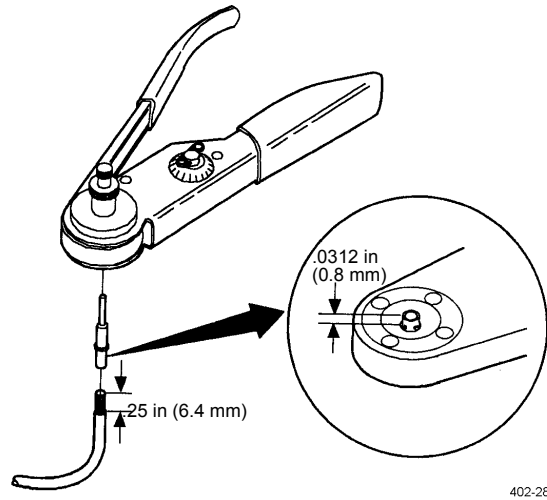

Figure 14. Setting Wire Gage Selector and Positioning Contact.
- (1) Strip approximately 1/4 in (6.4 mm) of insulation from cable.
- (2) Remove lock clip, raise wire gage selector, and rotate knob to number matching gage wire being used.
- (3) Lower selection and insert lock clip.
- (4) Position contact so that the crimp barrel is 1/32 in (0.8 mm) above four indenters (Figure 14). Crimp cable.